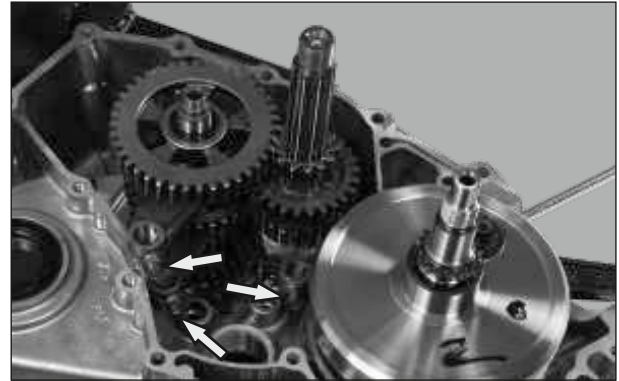

Fig. 3.83
- Take out the fork gearshift high speed along with spacer roller gearshift fork pin from gear 2nd drive. (Fig. 3.83)
- Take out the fork gearshift low speed along with spacer roller gearshift fork pin from gear 3rd driven. (Fig. 3.83)
- Take out the fork gearshift low speed reverse gear from gear 4th driven. (Fig. 3.83)